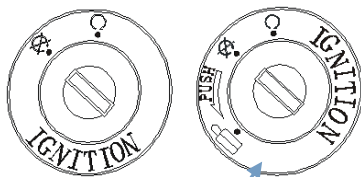

FIG1 (OFF) FIG2 (LOCK)
Fuel empty warning lamp FIG1 ④